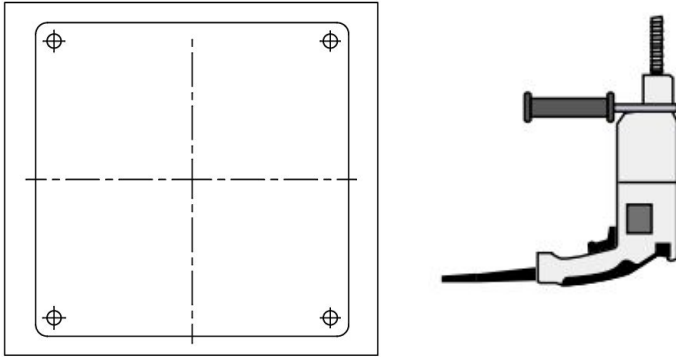

Figure 1-1
Step 1 Use the included position map and drill the appropriate mounting holes. See Figure 1-1